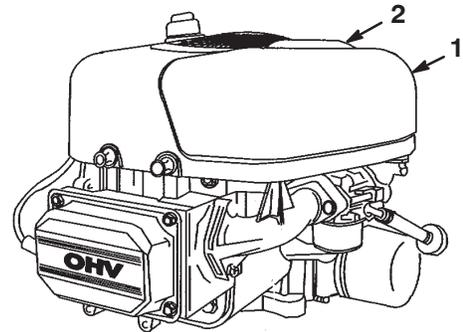

Figure 23
5. Pull up on the air cleaner cover handle and rotate it toward the engine (Fig. 23).